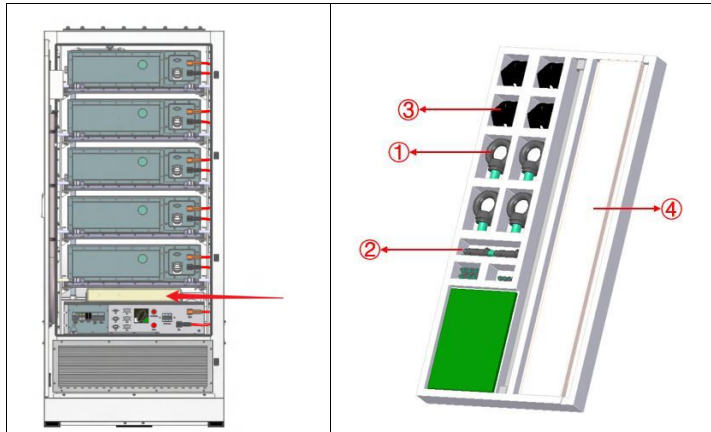

Fig 7-9 Battery Cabinet Accessory
rings (Fig7-9: ①) from the attachment, attach them to the top of the cabinet, and confirm that each lifting ring is tightened.
- Remove the base (Fig7-9: ③) and the matching screws and expansion screws (Fig7-9: ②) from the attachment
Remove the prongs from the fitting and attach the prongs to the base, remove the prongs covering sheet metal (Fig7-9: ④) and the matching screws (M6, recommended torque: 5Nm•).